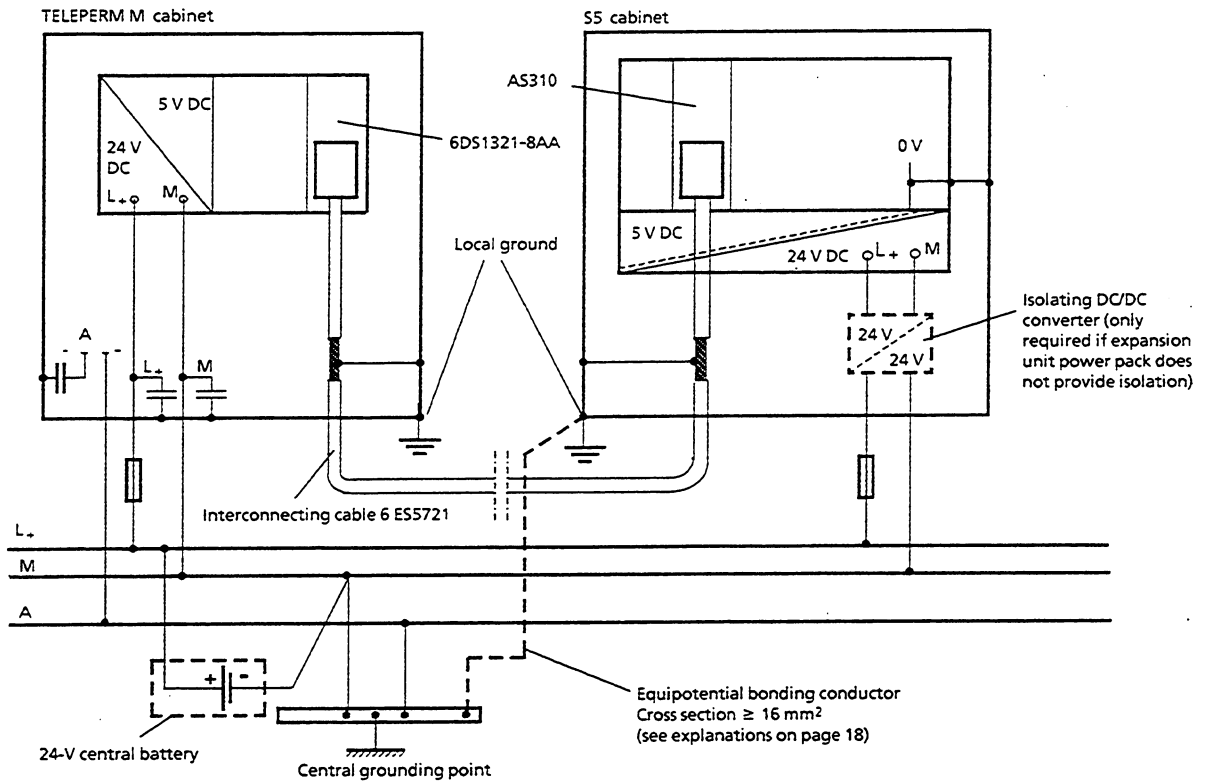

Fig. 5 Grounding concept for power supply from a central battery
The system layout and connections are to be made as shown in Figures 5 to 7.
- e) For a system layout as shown in Figure 5 the following points must be additionally considered: